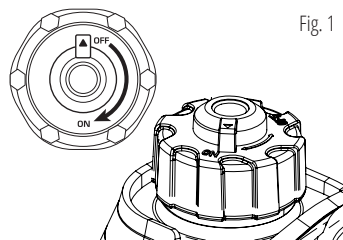

Fig. 1
3. Open the vent on the fuel cap to the "ON" position (fig. 1).